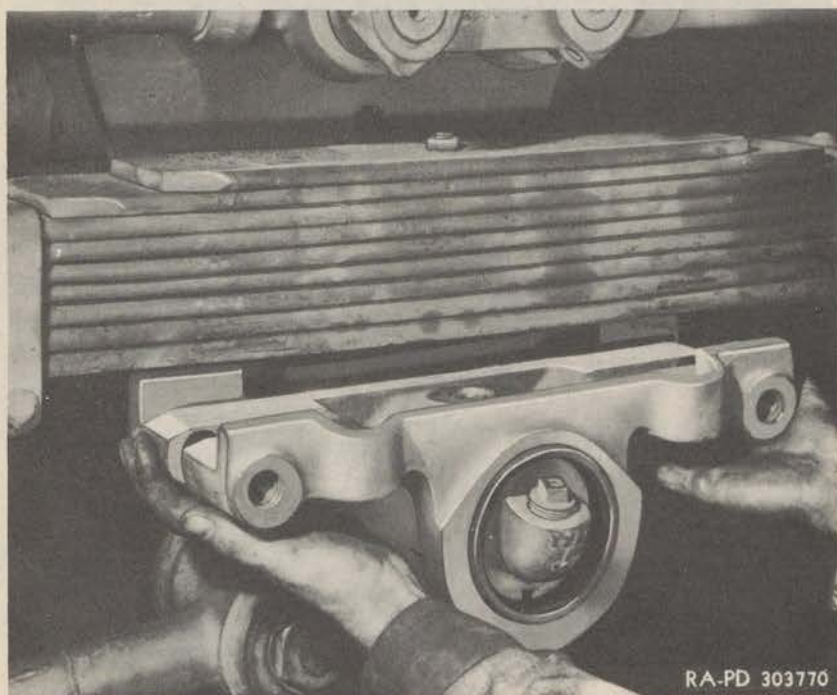

Figure 151—Removing Rear Spring Seat
(3) **REMOVE SPRING SEAT.** Remove the clamp bolt, nut and lock washer from the spring seat cap on the end of the rocker beam, and take out the locking plate which is located in the slot cut in the cap. Unscrew the cap from the end of the rocker beam, then remove the outer cork oil seal. Grasp the oscillating spring seat with both hands and pull it off the rocker beam (fig. 151). The inner cork oil seal may then be removed (fig. 152).